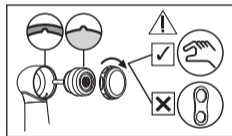

Fig. 39
- 7 Insert the new cartridge into the head by aligning the pin on the cartridge with the slot on the head (Fig. 39). (S-Max pico has no pin and slot.)